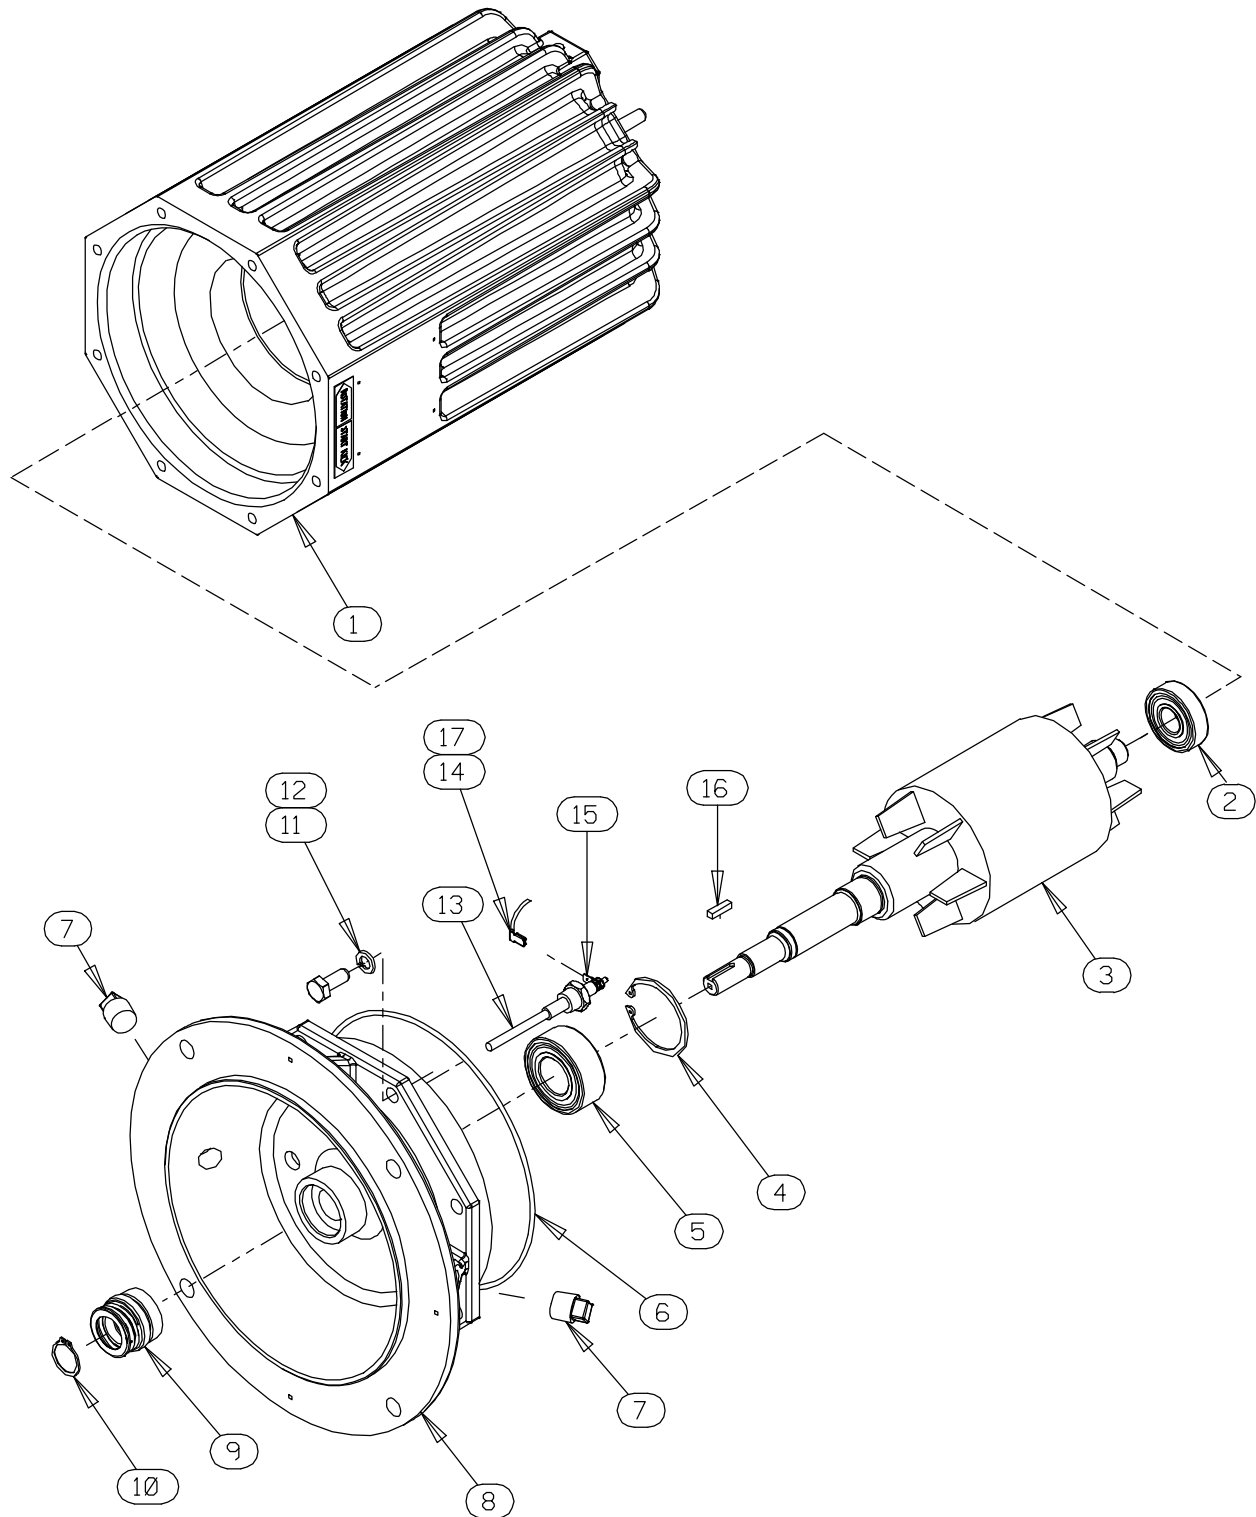

Figure E-2. 47111-803, -808, -809 and -857 Motor Assemblies
(Figure E-2)
To remove the impeller, use two thin-bladed screwdrivers positioned 180° apart to pry on the back of the impeller and “walk” the impeller off the shaft. Use increasingly larger screwdrivers (or wedges) as necessary. After the impeller comes free of the shaft, retain the impeller key (16, Figure E-2).
An alternate method of removing the stationary element is to remove the screws (16) securing the seal plate (14) to the motor assembly (7). Pry the assembled seal plate and stationary element off the shoulder of the intermediate (8, Figure E-2). Remove the O-ring (6) and press the stationary element and seat out of the seal plate from the back side.
(Figures E-2 and E-3)
With the pump inverted, stuff a clean tissue into the stationary seal seat bore of the intermediate (8, Figure E-2) or wrap a small rag around the shaft to prevent foreign material from entering the motor cavity.